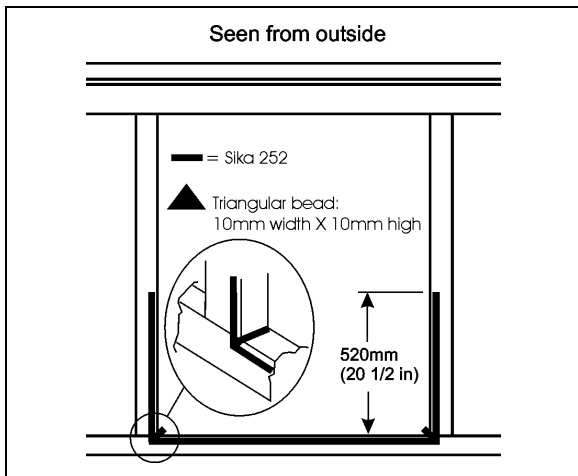

FIGURE 70: AWNING WINDOW – SIKA 252 APPLICATION
7. Apply Sika 252 as per FIGURE 70 (triangular bead: 10mm width X 10mm high) [10mm≈3/8"];